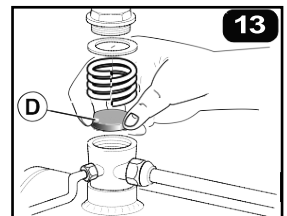

Fig. 13
Check the non-return valve and if necessary replace the seal (D) (Fig. 13).